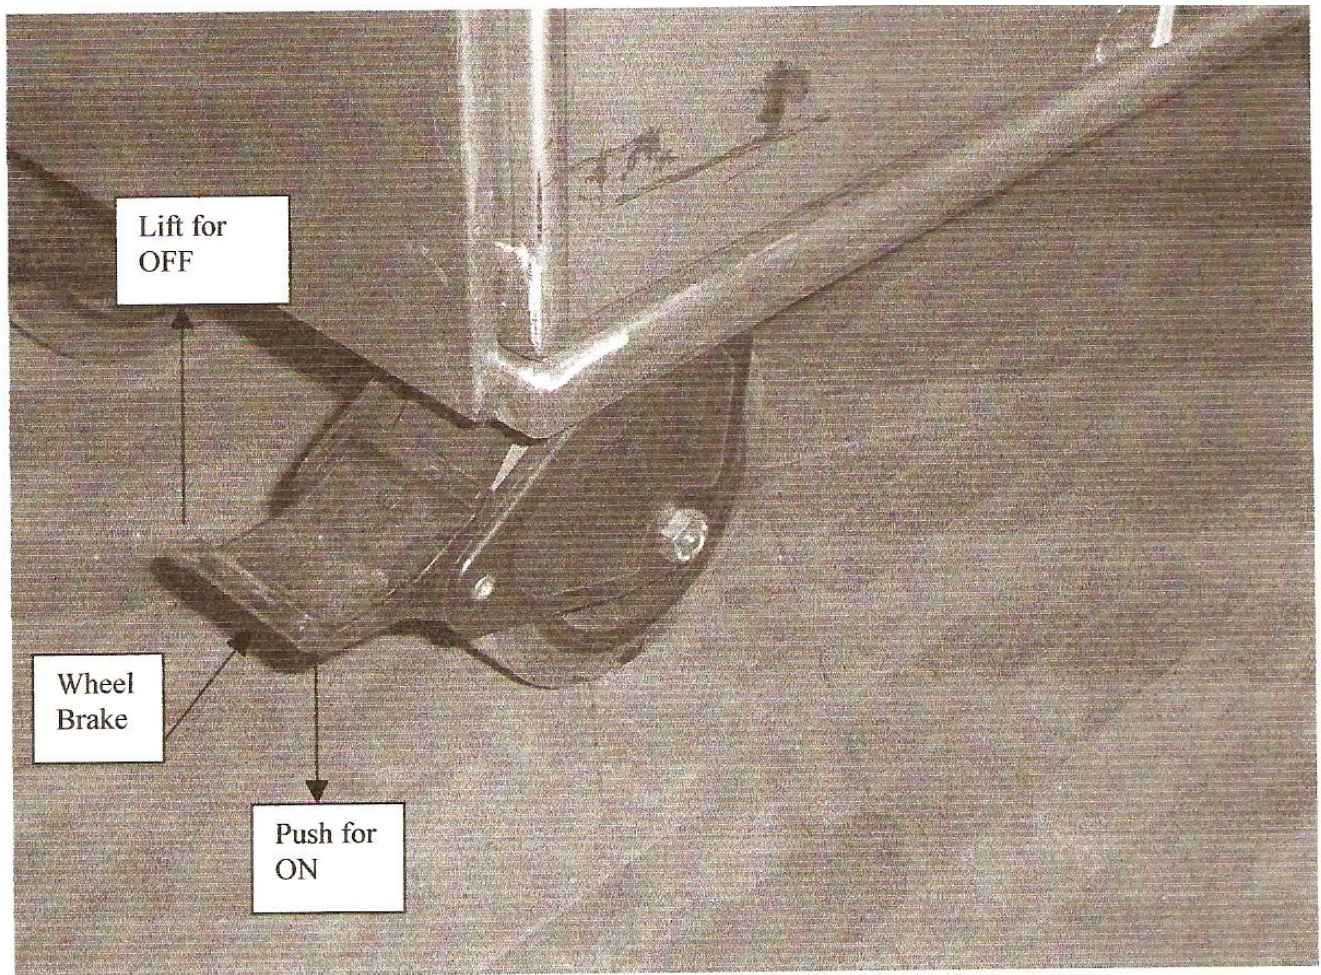

Figure 1.1 Wheel Brake
- 1.5 Apply the rear brakes. See Figure 1.1